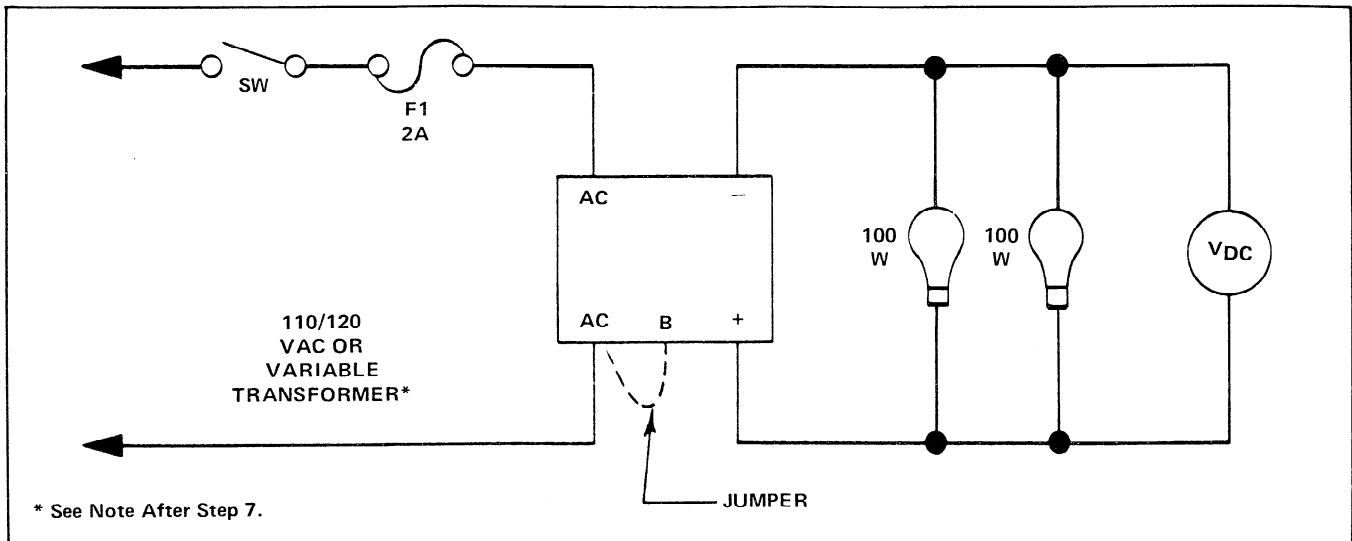

Figure 6-25. Wiring Diagram – Voltage Regulator Field Test
1. Connect two 100 watt light bulbs across “+” and “-” terminals of regulator. See Figure 6-25.
4. Connect one pole of (on-off) switch and the fuse to one of the “AC” terminals on the regulator. Connect other pole of switch to the 110/120 AC source (Figure 6-25). Connect other “AC” terminal to 110/120V AC source.